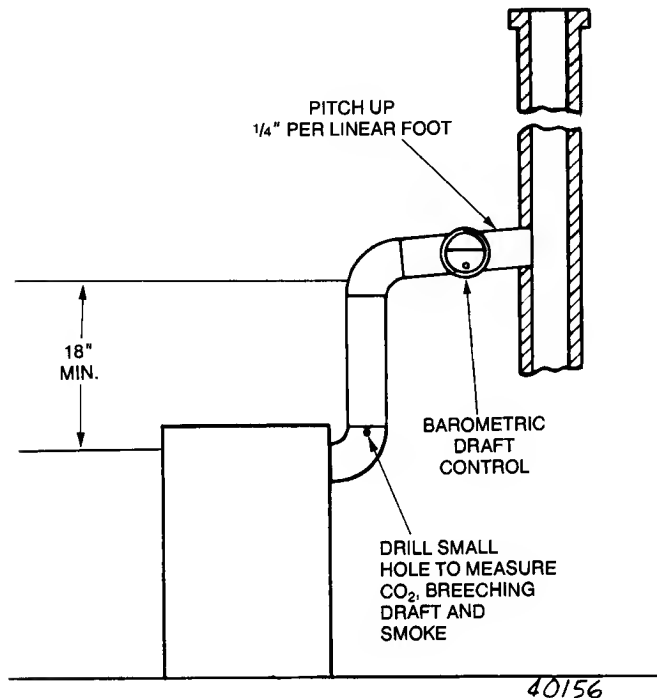

FIGURE 3
Back outlet (68)—see Figure 3.